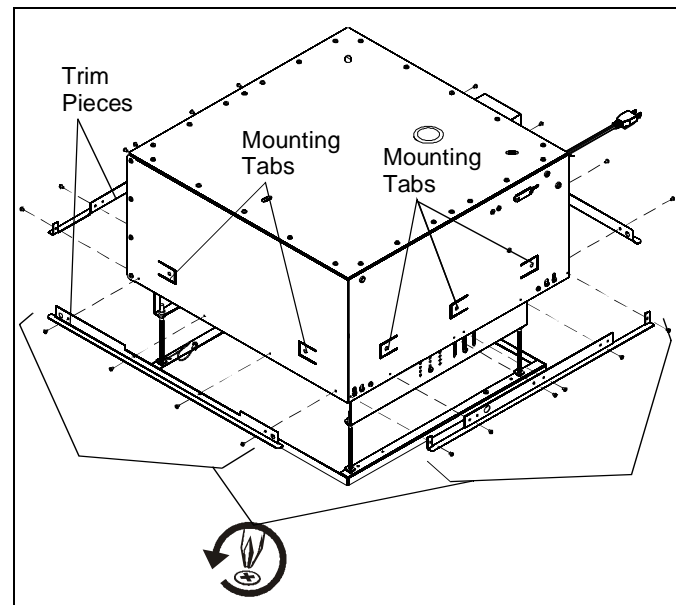

Figure 8
**NOTE:** The side trim may need to be removed to properly fit the lift into a 600x600mm suspended ceiling. Remove and discard retaining screws and trim pieces from each of the four sides. (See Figure 8)
1. Use 1/4" x 1-1/2" (minimum) Grade 2 lag screws (not provided) to secure SL151i to the joists or wood framework, using the mounting tabs located on the sides of the SL151i housing. (See Figure 8)
2. Use the provided push button (D) to operate the SL151i up and down, ensuring that all clearances are adequate.